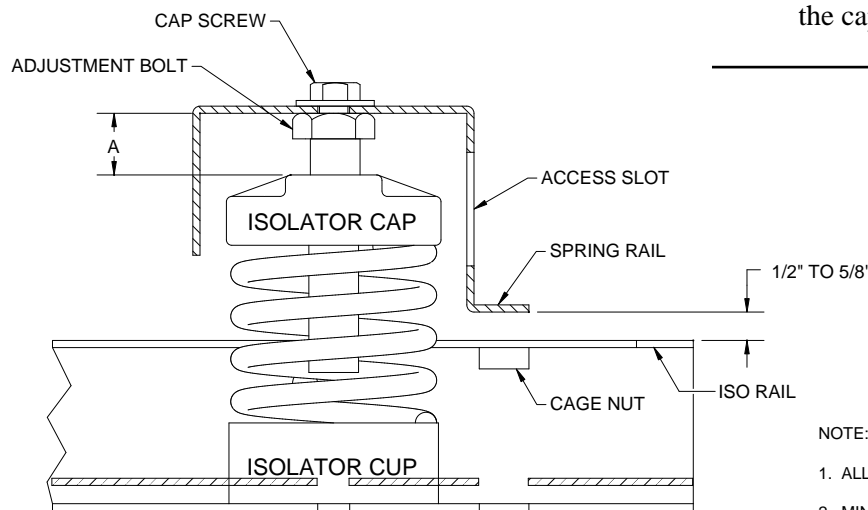

FIGURE 1
2. MINIMUM AND MAXIMUM DISTANCE ARE MEASURED FROM THE TOP OF THE ADJUSTING BOLT, AS SHOWN IN FIGURE 1.